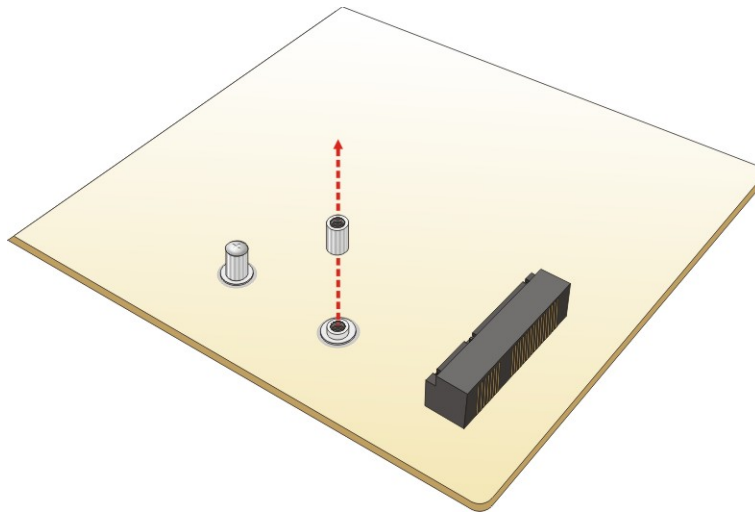

Figure 3-6: Removing the Standoff for Half-size PCIe Mini Card
Step 3: Remove the standoff for a half-size PCIe Mini card as shown in **Figure 3-6** to avoid interference of the board circuit.